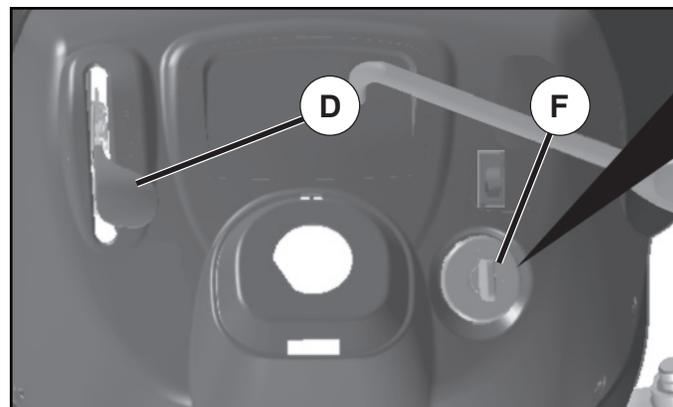

FIG. 6
- Move throttle control (D) between half and full speed (fast) position.
- Turn ignition key (F) to "STOP" position and remove key. Always remove key when leaving tractor to prevent unauthorized use.
- Never use choke (N) to stop engine.
### TO USE THROTTLE CONTROL (D) (See Fig. 6)